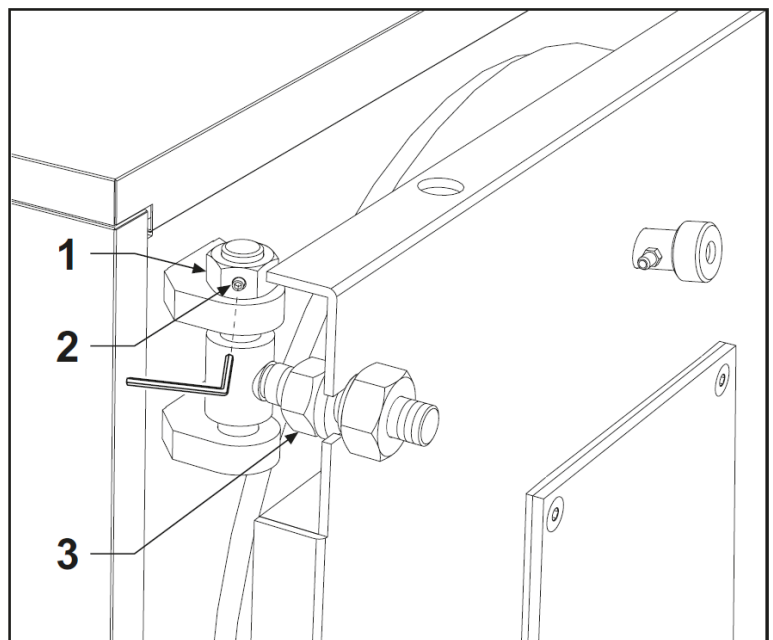

fig. 12
- Door height adjustment is done with the nut (pos. 1); after adjusting, tighten the grub screws (pos. 2 - fig. 12).
- Lengthwise adjustment is done with the screw pos. 3 - fig. 12.